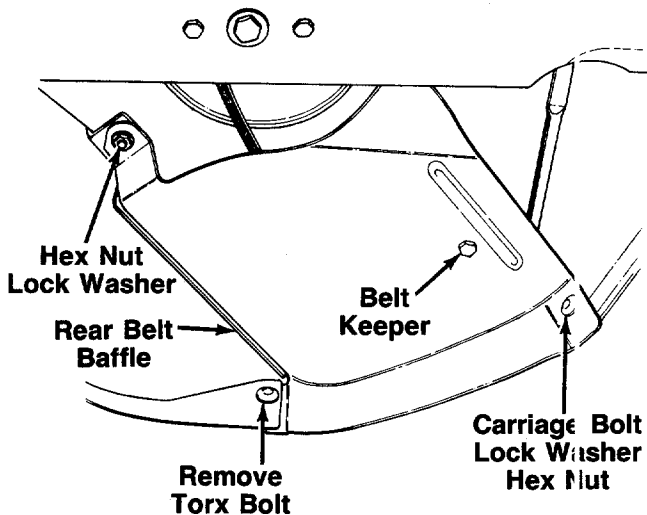

FIGURE 24.
4. Remove the rear belt baffle by removing the lock washer and hex nut shown in figure 24. Then remove one Torx bolt, using a #27 Torx driver. A 9/64" Allen wrench may also be used. Then remove one carriage bolt, lock washer and nut as shown.
**NOTE:** When reassembling the rear belt baffle, make certain the belt keeper is outside of the belt, and the edge of the rear belt baffle is between the rear chute baffle and the rear panel as shown in figure 24. Make certain to tighten all nuts and bolts securely. If plastic was placed under the gas cap, be certain to remove it.